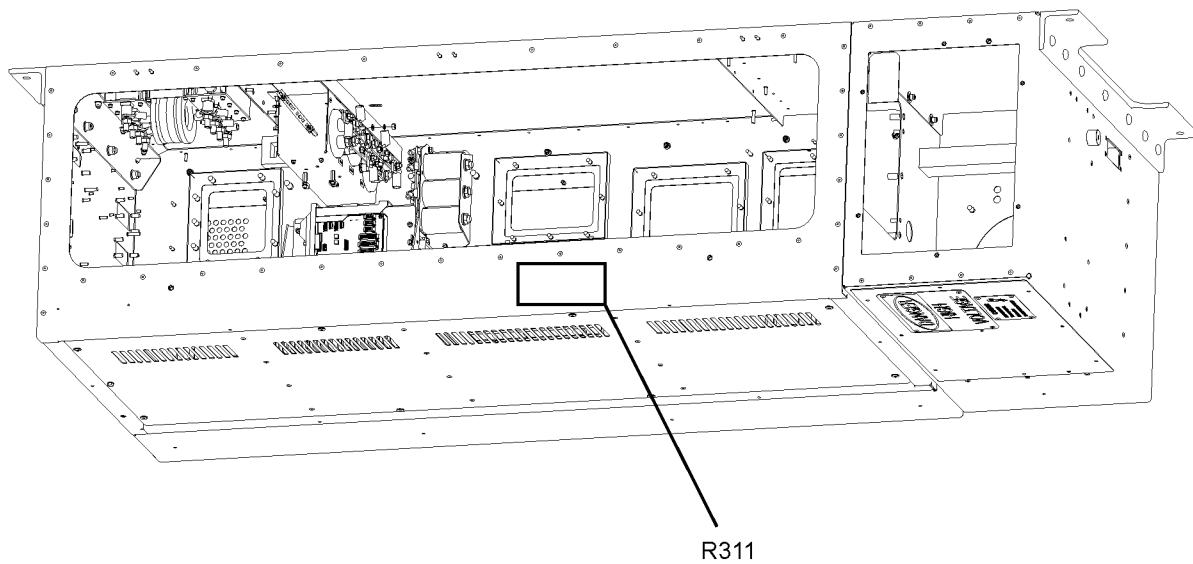

Figure 5-28: Location of R311
3. Locate R311. See Figure 5-28 for the location of the R311.